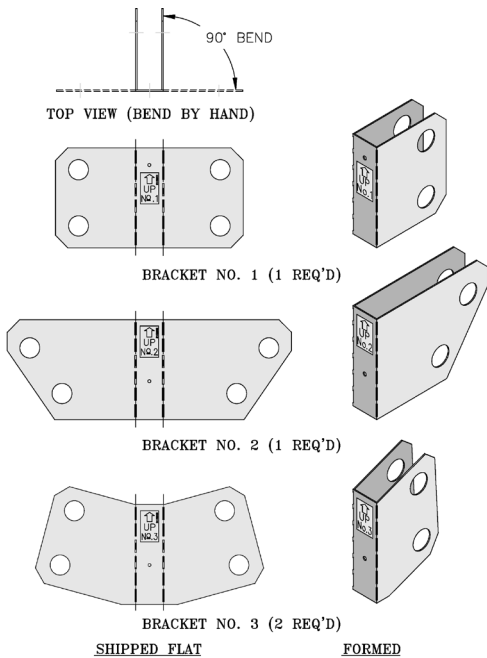

Figure 10: Jacket Intermediate Panel Mounting Brackets
3. (▲) DENOTES LOCATION OF "C" CENTER SECTION TO WHICH JACKET SUPPORT BRACKETS MUST BE ATTACHED DURING BLOCK ASSEMBLY, SEE FIGURE 10 FOR DETAILS.
- i. LOCATE JACKET INTERMEDIATE PANEL MOUNTING BRACKETS NO. 1, NO. 2 AND NO. 3 IN JACKET CARTON. Brackets are shipped flat and must be formed by hand, bend as shown in Figure 10.